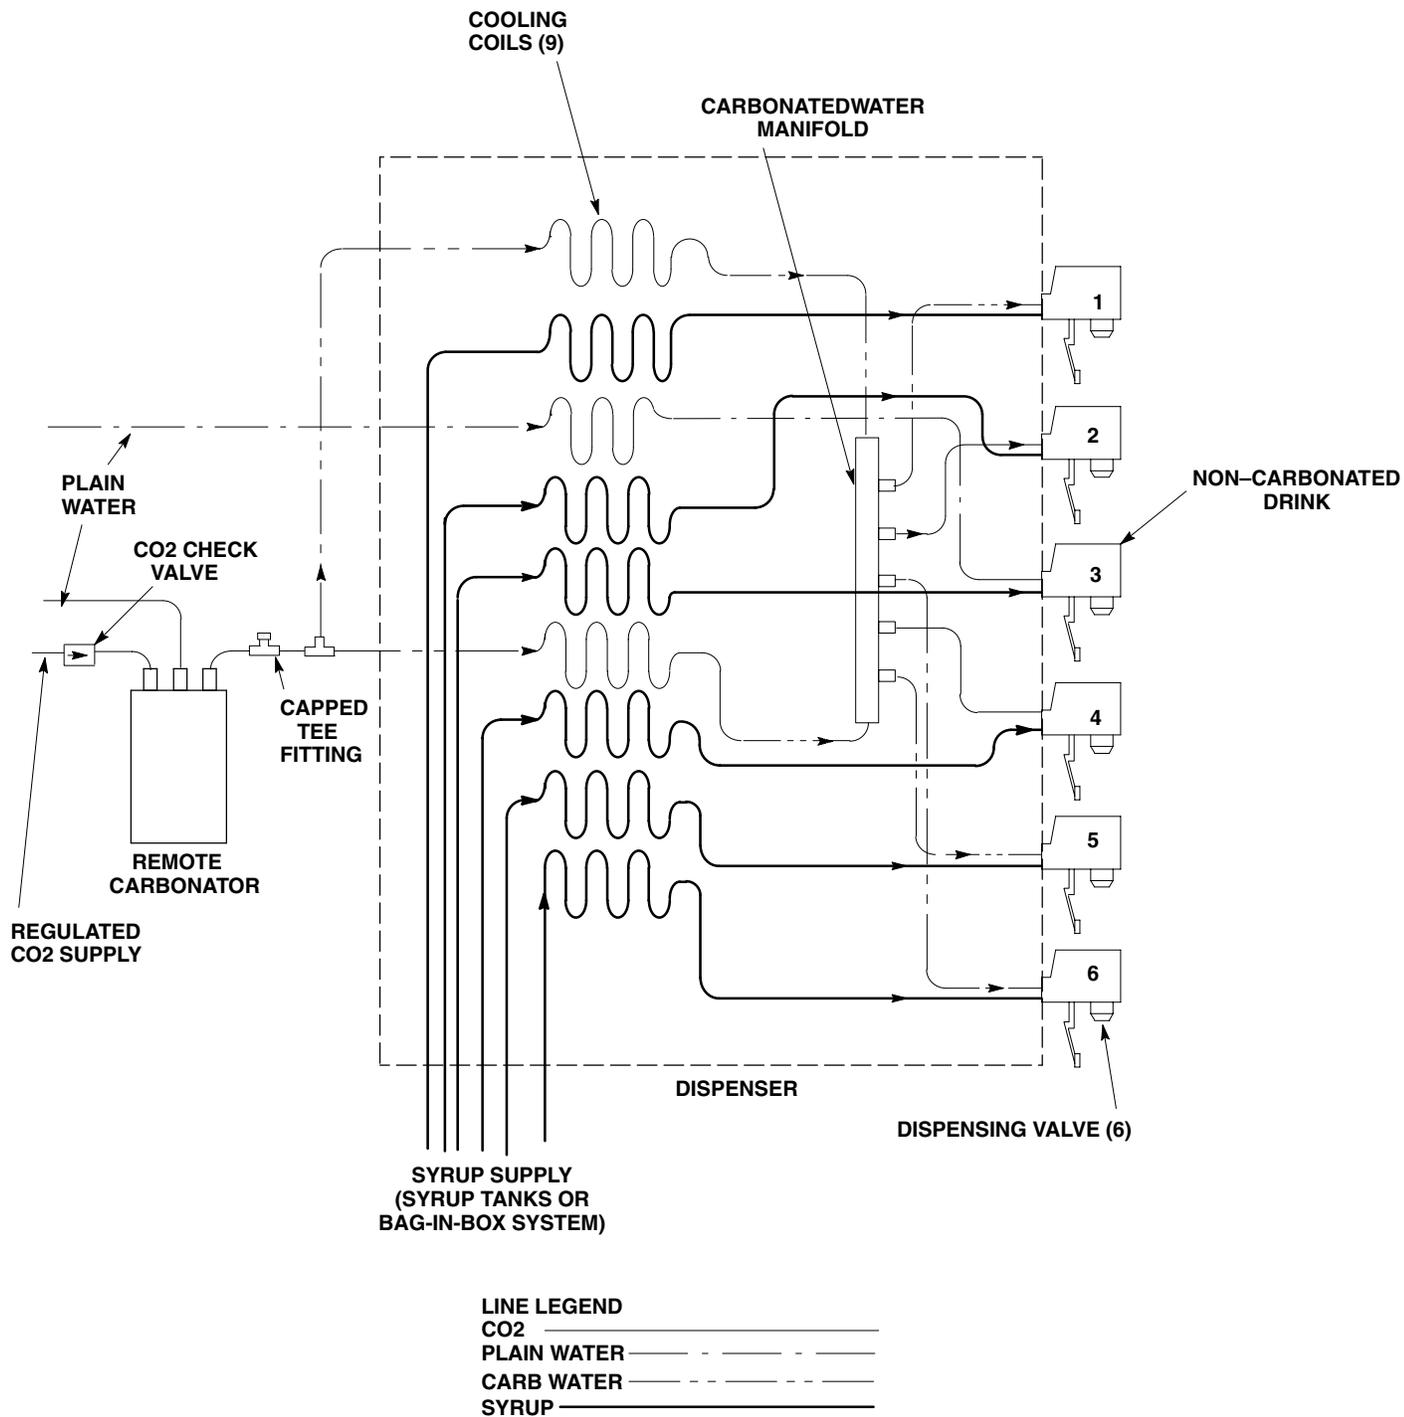

FIGURE 3. FLOW DIAGRAM
8. Route syrup source tubes (numbered for identification) and carbonated and plain water source tubes (see Figure 3) up to and to inside of the Unit. Connect numbered syrup source tubes to matching number labeled Unit syrup inlet tubes. Connect carbonated and plain water source tubes to Unit carbonated and plain water inlet tubes.